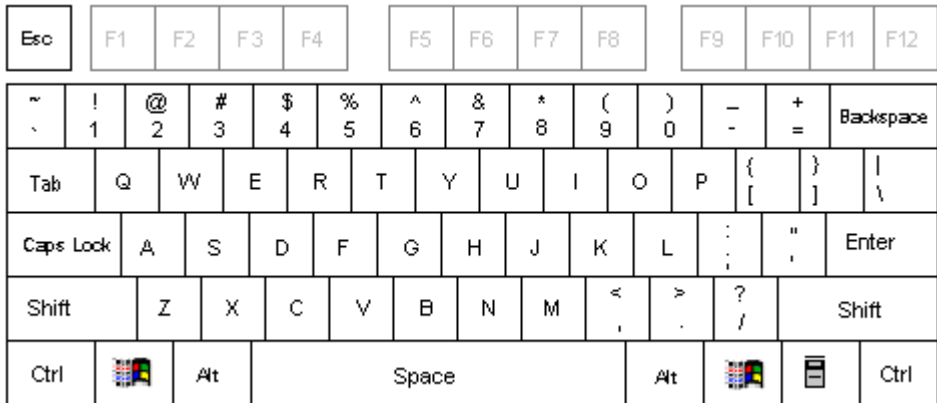

Figure 3-3. Alphabetic character and command keys
**Note:** Blank keys in Figure 3-3 are not operational in this system.